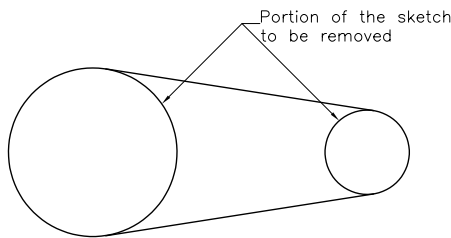
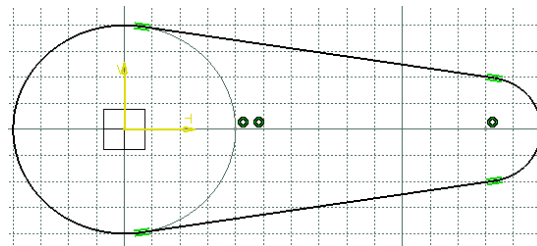

Figure 3-55 The unwanted portion of the sketch to be trimmed
Figure 3-56 The sketch after trimming the unwanted portion
- Trim the unwanted portion of the outer loop of the sketch using the **Quick Trim** tool, refer to Figures 3-55 and 3-56.
- Click on the unwanted portion of the sketch, refer to Figure 3-55. The final sketch is shown in Figure 3-56.